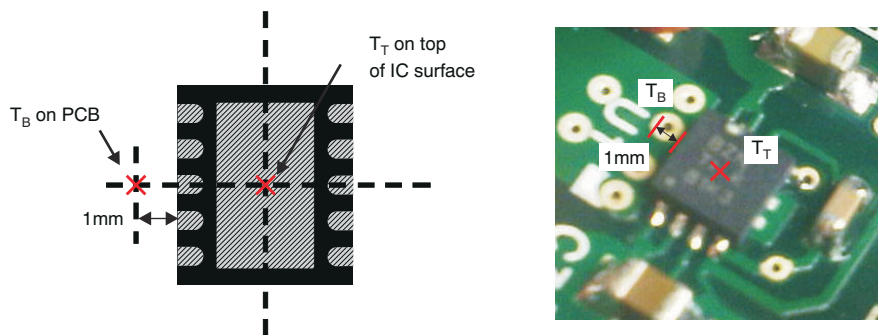

图 8-9. Measuring Points for  $T_T$  and  $T_B$
- $T_B$  is the PCB temperature measured 1mm away from the device package *on the PCB surface* (as 图 8-9 shows)